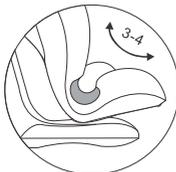

Fig.3
1. Place the car seat in the sleeping position 3 or 4. (Fig. 3)